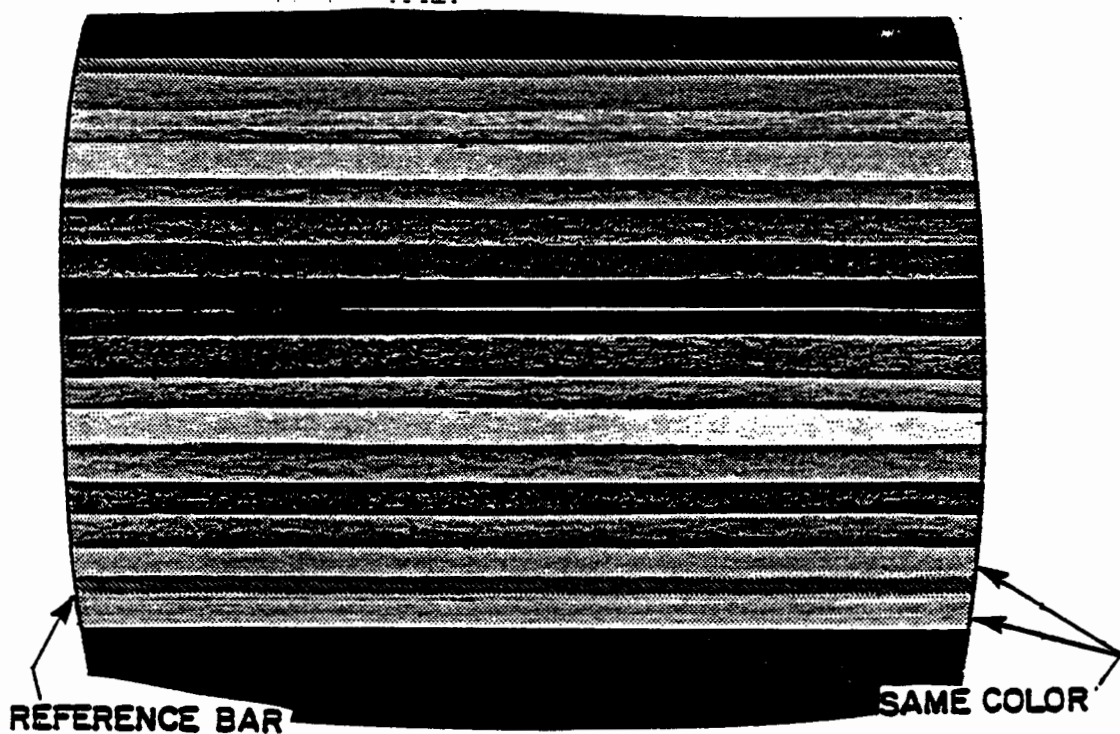

Figure 3-8. Color Bars Screen
- Format: Set all switches to initialization position. A screen of horizontal color bars is displayed (See Figure 3-8). The screen should be steady and unchanging. A gray or blue horizontal reference line runs across the screen about three bars from its bottom. This reference line is thinner than the bars around it. R211 (R213 on the 2600A board) should be adjusted so the bars immediately above and below the reference line are within one shade of each other. Proper operation of the unit is indicated by being able to make this adjustment and by consistent color within the entire span of each bar on the screen. Minor glitches on the edges of the color bars are acceptable. Leave this test on for at least ten seconds in order to catch any intermittent problems, such as a bar momentarily changing colors or blanking out.